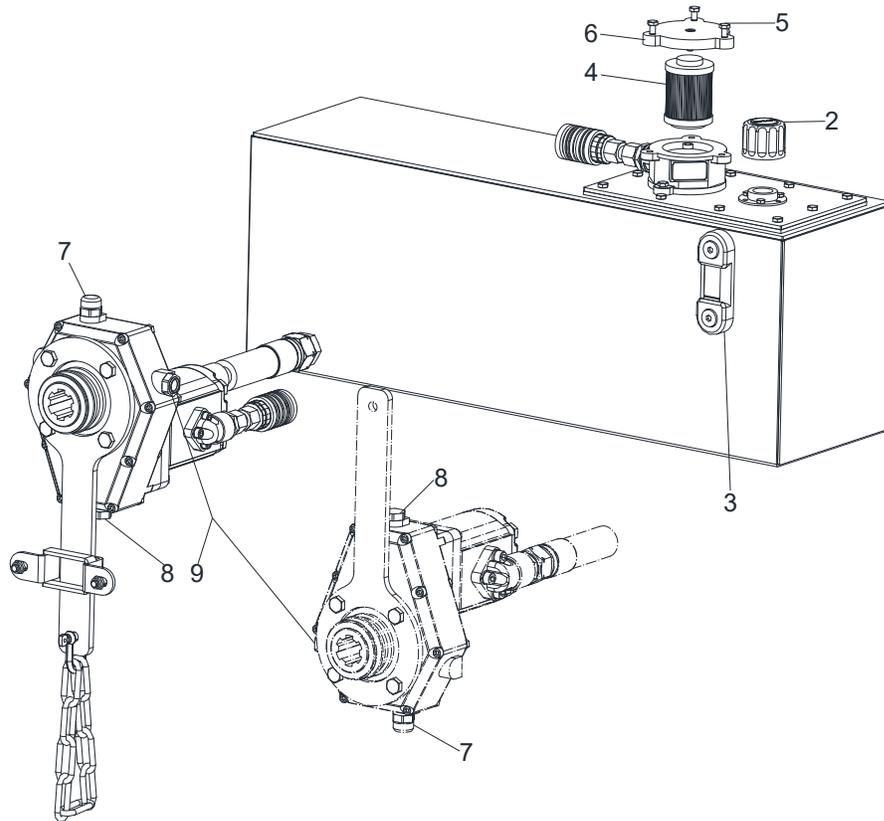

Fig. 53 External oil supply unit DS1200, DS1600, DS3100
1. Unscrew the breather screw (Fig. 53/7).
2. Loosen the drain plug (Fig. 53/8) and drain the oil.
3. Screw in the filler screw (Fig. 53/7) with a new seal.
4. Rotate the pump 180 degrees. Replace the seal on the sight glass (Fig. 53/9).
5. Fill in oil **SAE85-W140** at the drain (Fig. 53/8) up to the height of the sight glass (Fig. 53/3).
6. Screw in the drain plug (Fig. 53/8) with a new seal.
1. Loosen the hose (Fig. 53/1) and drain the oil.
2. Re-attach the hose (Fig. 53/1).
3. Remove the cap (Fig. 53/2) from the filler filter.
4. Fill in **Plantosyn 3268 ECO** (Fig. 53/3) up to the middle height of the sight glass.
5. Close the cap (Fig. 53/2).
1. Remove the cover (Fig. 53/6) by loosening the screws (Fig. 53/5).
2. Replace filter element (Fig. 53/4).
3. Reassemble cover (Fig. 53/6) with screws (Fig. 53/5).
- ▶ Replace return filter (Fig. 53/4) every 100 operating hours.